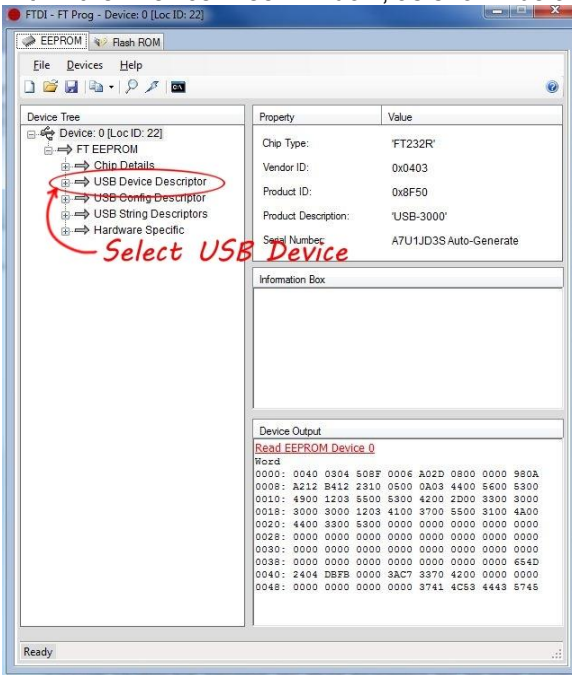
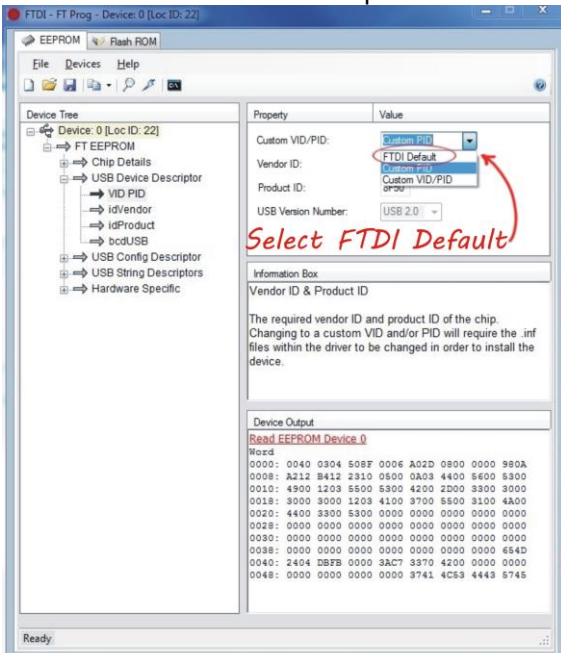
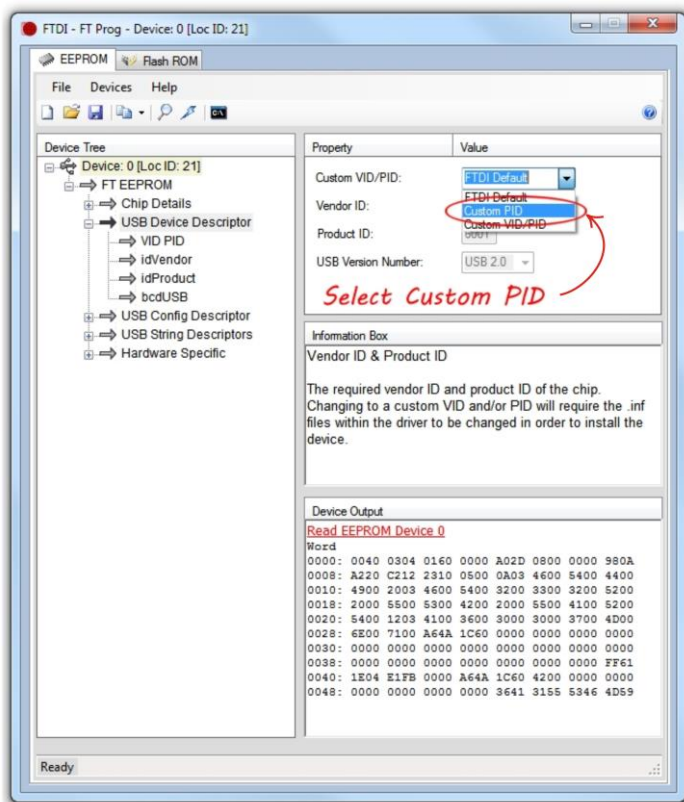

Figure 26 Select USB device
Figure 27 Select FTDI default setting
Figure 32 Reprogram DVSI Product ID
Step 6. To change the Product ID from DVSI's PID to the FTDI's default PID select the USB Device Descriptor in the left window panel. Expand it by clicking on the “+” sign. Figure 26 Select USB device then in the right side window panel click on the Custom VID/PID pull down menu and select FTDI Default. Figure 27 Select FTDI default
Revert Step 6: To change the Product ID from FTDI's default PID to DVSI's PID select the USB Device Descriptor in the left window panel. Expand it by clicking on the "+" sign. Figure 26 Select USB device, then in the right side window panel click on the FTDI Default pull down menu and select Custom PID. See Figure 32 Reprogram DVSI Product ID.